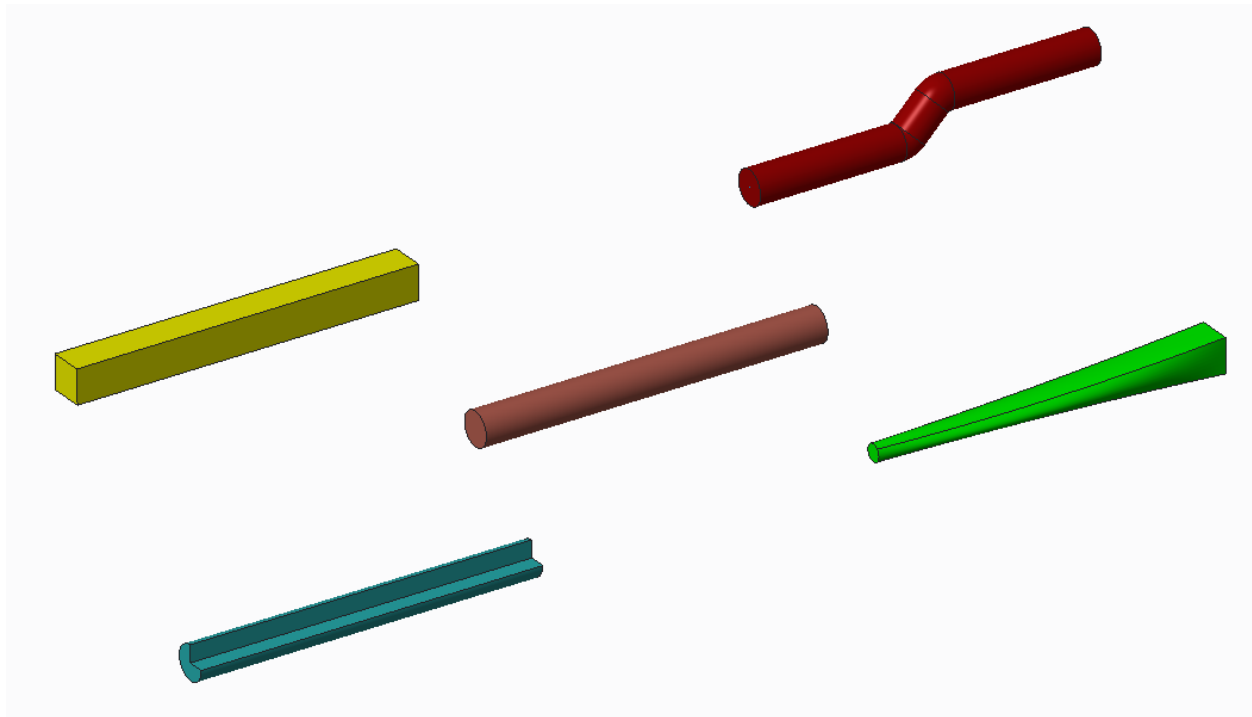

Figure 3-2. Effect of Feature Choice on Design Intent.
- If the cylinder might change into a shape other than circular, then the Extrude would be the best choice in this situation (see the yellow object in Figure 3-2).
- If the angle of revolution might change to something less than 360 degrees, then the Revolve would be our solution (see the blue object in Figure 3-2).
- If the critical factor is controlling the shape at both ends of the geometry, then we would want to choose the Blend (see the green object in Figure 3-2).
- If the path (trajectory) could change, then the Sweep would best allow us to account for this change in Design Intent (see the red object in Figure 3-2).